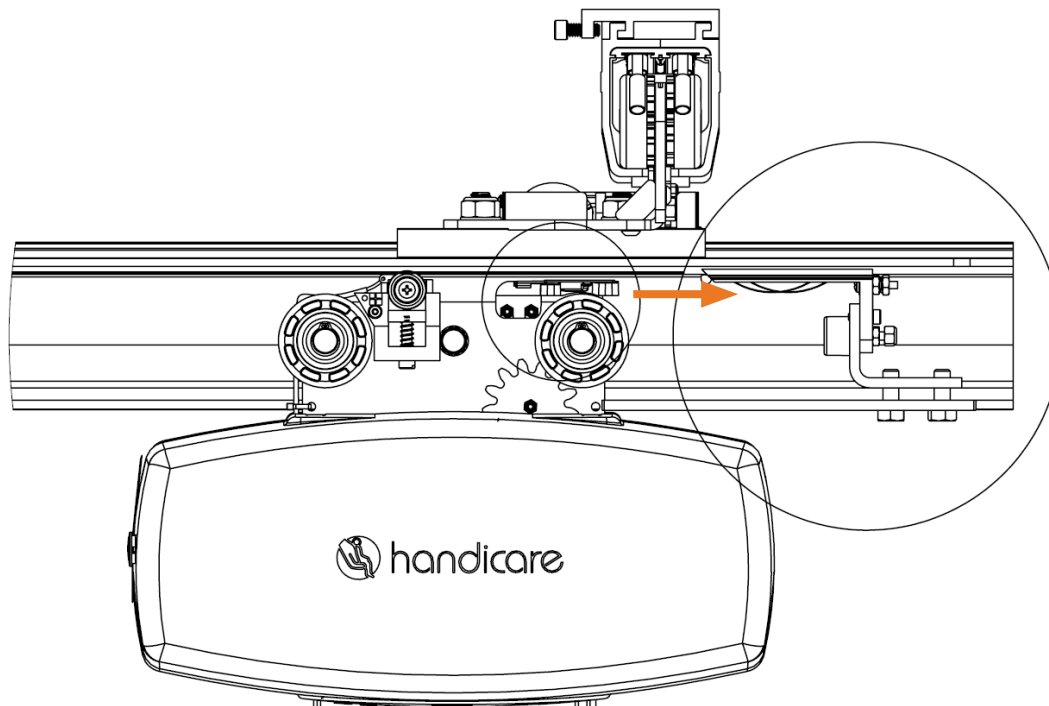

Figure 66: **Ceiling Lift Contacts**
13. Insert the ceiling lift with the endstop charger side facing the endstop charging bracket (Figure 66).